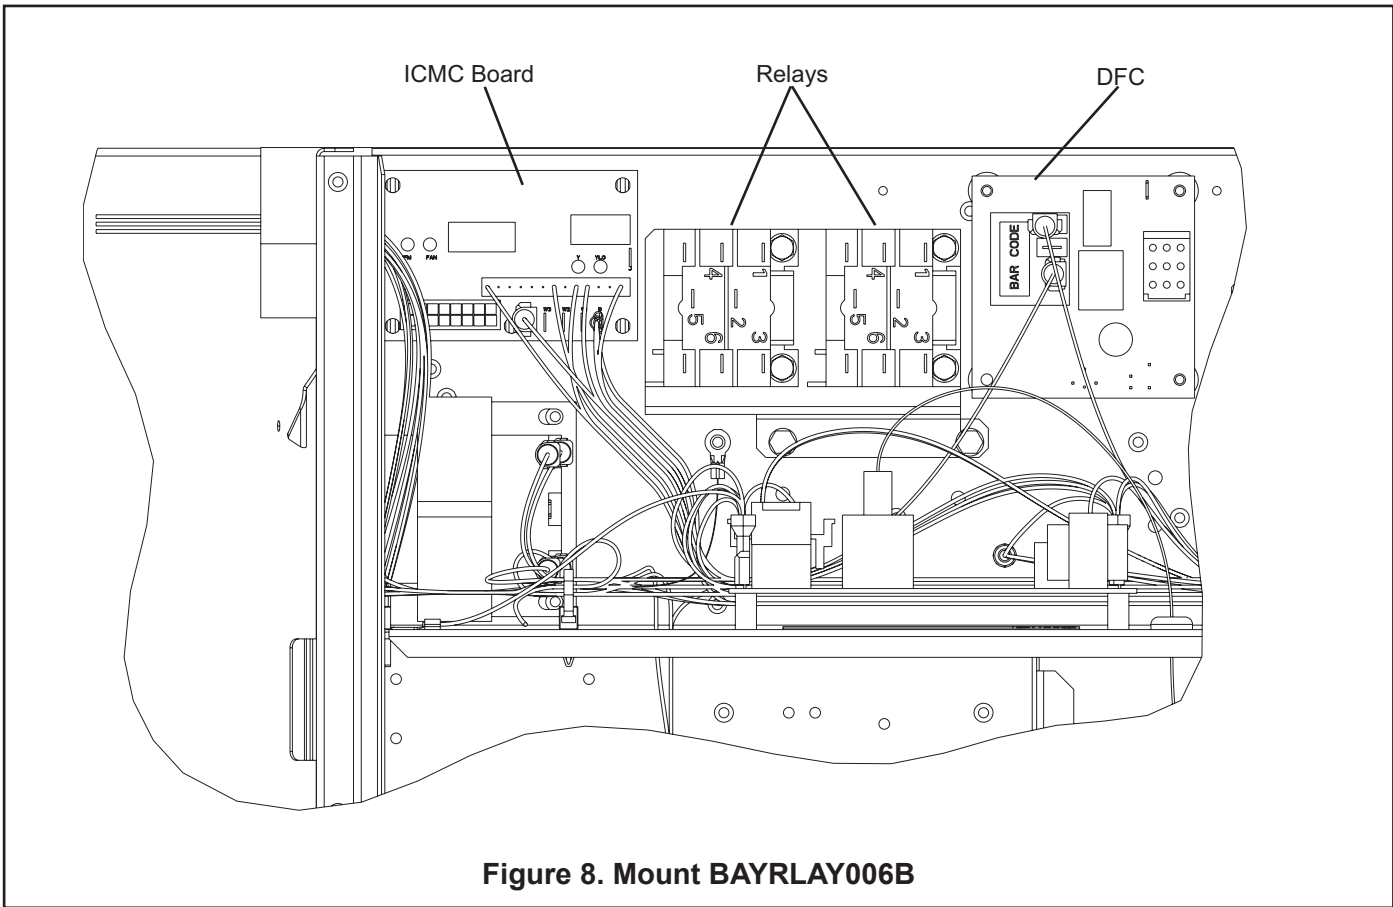

Figure 8. Mount BAYRLAY006B
2. Locate the ICMC Board in the upper left hand corner of the unit control box and the DFC board in the upper center of the unit control box. See Figure 8.
3. Using the existing holes in the back of the unit control box, mount the relay bracket assembly using the 2 screws supplied with the BAYRLAY006B Kit. See Figure 8.